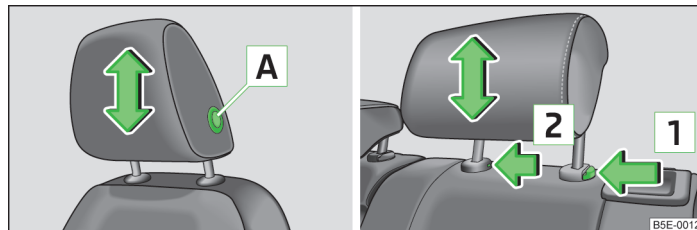

Fig. 49 Head restraint: front/rear
» Hold the **front head restraints** on the sides with both hands, press and hold the safety button » Fig. 49 and move the head restraints into position. ►
- Hold the **rear head restraints** on the sides with both hands and move them **upwards** » Fig. 49.
- Press the locking button in the direction of arrow [1] » Fig. 49 simultaneously press the locking button into the opening [2] using a flat screwdriver with a width of maximum 5 mm and pull out the head rest.